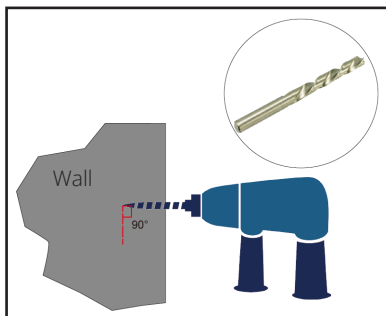

Figure 2-5: Drill holes in the wall
- 1 Drill two holes in the wall using a percussion drill (Figure 2-5).